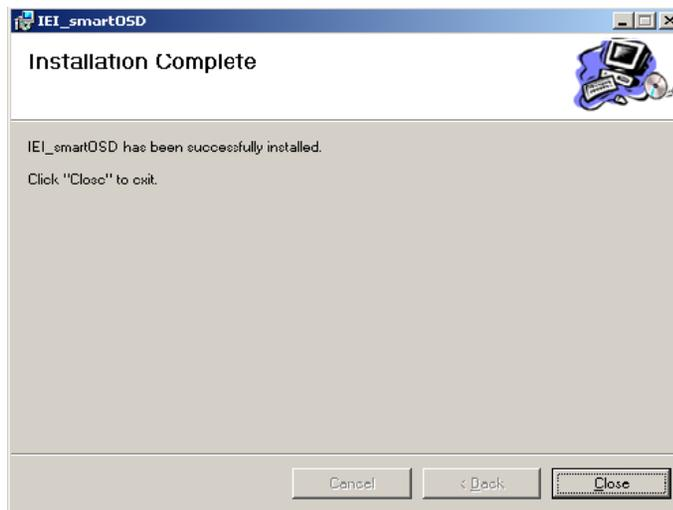

Figure C-6: smartOSD Installation Complete
Step 11: When the installation is complete the "Complete Installation" screen in Figure C-6 appears.